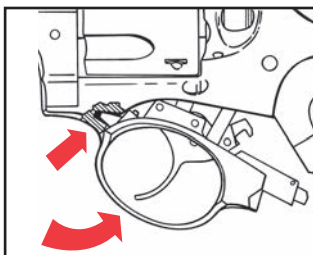
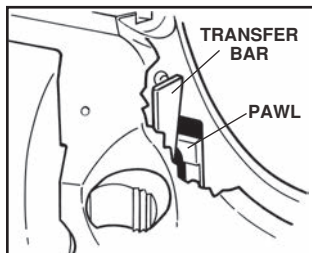

Figure 13
Figure 15
6. Use mainspring assembly to depress trigger guard lock plunger located inside frame at rear of trigger guard. Simultaneously pull down and remove trigger guard assembly (See Figure 13 & 14).
2. Hook front of trigger guard into recess in frame (see Figure 13, p. 23). Align pawl in its recess in the frame and be sure transfer bar is in correct position in frame then allow latch to re-engage. If solid resistance is felt when swinging trigger guard into frame, or if trigger guard will not lock into position re-check position of pawl and transfer bar (see Figure 15).